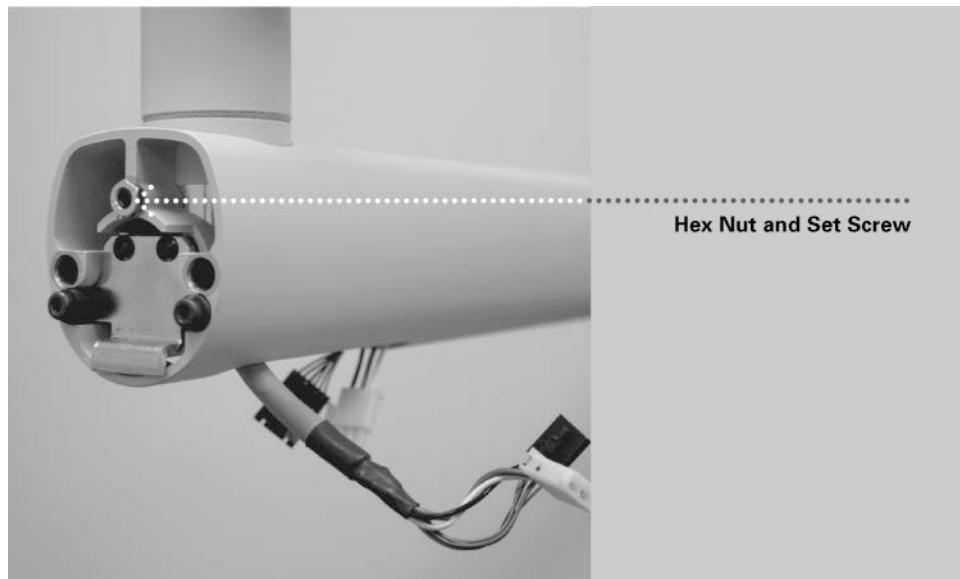

Figure 21
2. Insert the M6 x 25 mm long set screw, as shown in *Figure 21*. Using a 3 mm Allen wrench, tighten the screw fully than back off $\frac{1}{4}$ turn and secure with the hex nut.